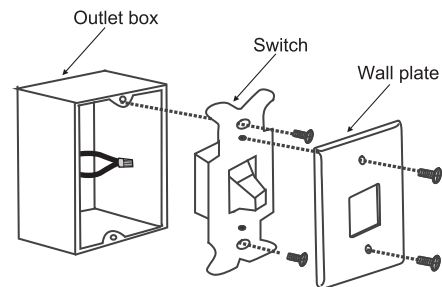

Fig. 18
Step 1. Remove the existing wall plate and the old switch from the wall outlet box. Wire nut the BLACK leads (hot) together and push back inside the outlet box. (Fig. 18)